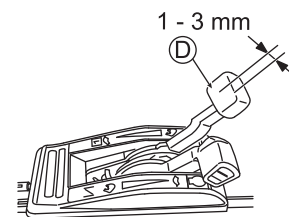

Fig. 27
Adjust the play of the gearshift lever (D) to 1 - 3 mm as shown in Fig. 27.
3. Start the engine and confirm that mowing speed changes when the gearshift lever (D) is operated.